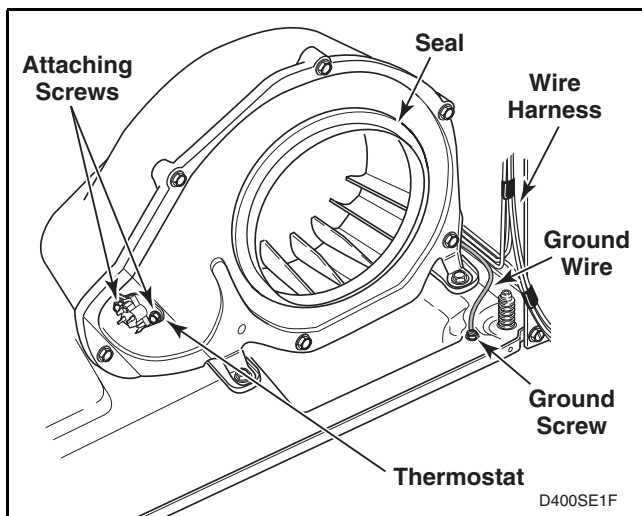
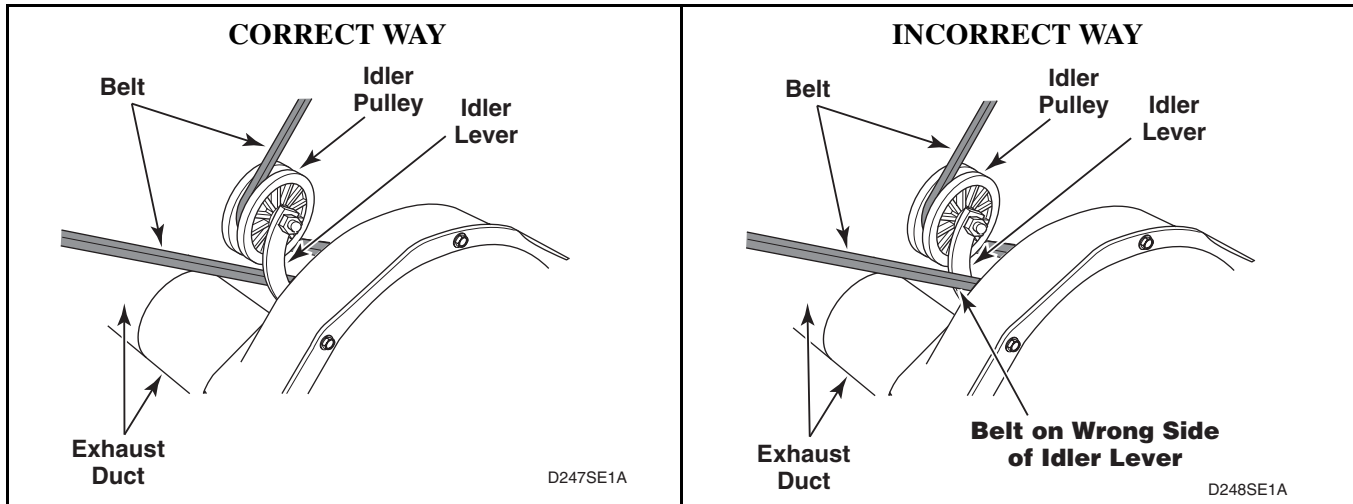

Figure 22
Figure 25
- c. Disconnect wires and remove thermostat attaching screws. Refer to *Figure 22*.
IMPORTANT: When reassembling, be sure seal on blower fan cover makes airtight seal on flange of duct. Refer to *Figure 22*. If the seal is installed improperly, the airflow through the exhaust system will be restricted which can adversely affect dryer performance.
IMPORTANT: When reassembling, be sure seal on blower fan cover makes airtight seal on flange of duct. Refer to *Figure 22*. If the seal is installed improperly, the airflow through the exhaust system will be restricted, which can adversely affect dryer performance.
- g. Remove cylinder belt from idler and motor pulleys. Refer to *Figure 25*.
IMPORTANT: When reinstalling motor and exhaust assembly, be sure wire harness on right side is clipped to motor mounting bracket and is routed along dryer base (between motor mounting bracket and right side of cabinet). Refer to *Figure 22*. Tab on rear of motor mounting bracket must be slid into slot in dryer base. Be sure the belt has been installed on the correct side of the idler lever. Refer to *Figure 25*.
- Disengage belt from motor and idler pulley. Refer to *Figure 25*.